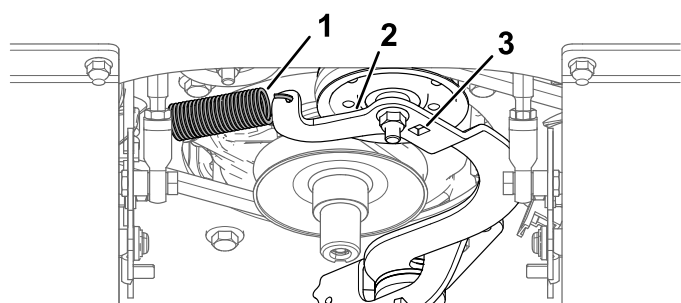

**Figure 57**
4. Remove the clutch pulley (Figure 57).
- 12. Install the clutch pulley (Figure 57). Torque the bolt to 68 to 81 N·m (50 to 60 ft-lb).